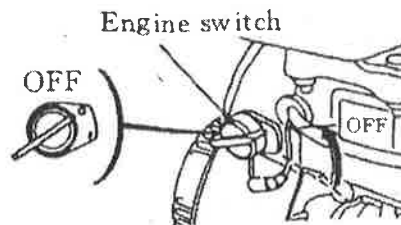

Fig. 13
2. Push the engine switch to the OFF position (Fig. 13).